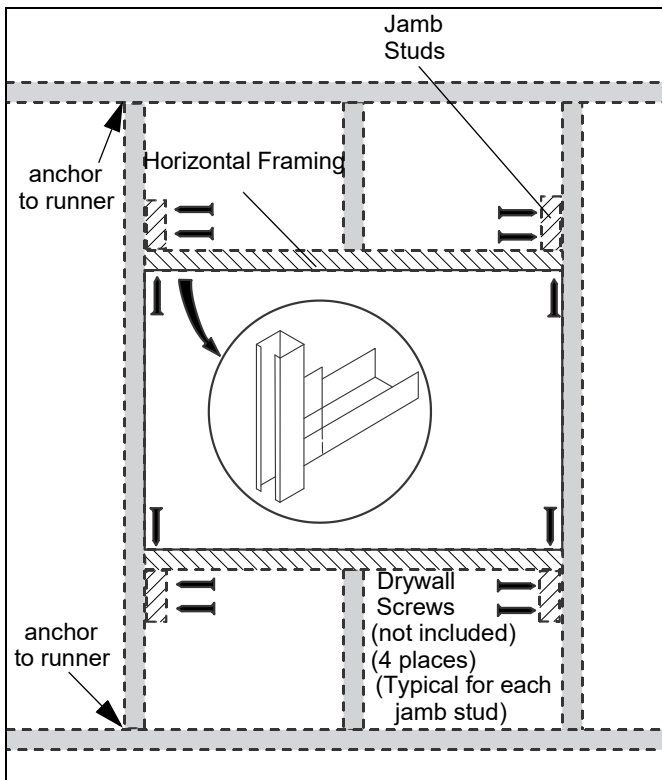

Figure 3
3. Using two 2 1/2" drywall screws (not included), attach each jamb stud to the studs (See Figure 3)
5. Attach 25 ga horizontal steel runner header framing to each jamb stud with 2 1/2" drywall screws (not included). (See Figure 3)